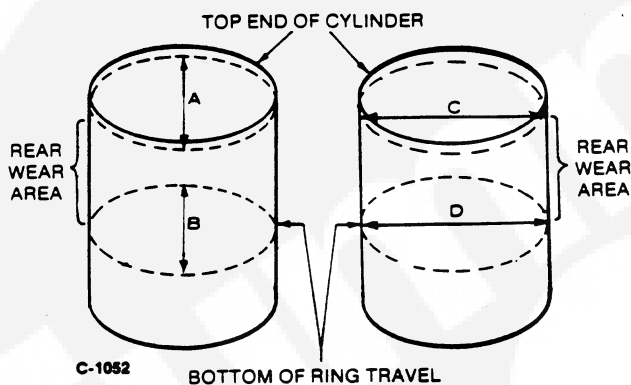

FIGURE 43. CHECKING TOP OF CYLINDER BLOCK FOR FLATNESS
4. Check top of block for flatness with a straight edge and a feeler gauge (Figure 43). This surface is the critical area for sealing oil, water and compression. If warped, a maximum of .05mm (.002 inch) may be machined from top of cylinder block. If warpage exceeds .05mm (.002 inch) replace block.